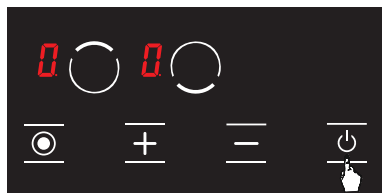

Figure 8
1.  Turn the stove on by pressing the button. (See Fig. 8)